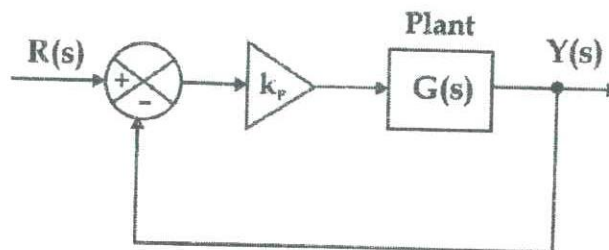

Figure Q3 (b)
- b) You are required to design a proportional controller for the system shown in Figure Q3 (b) using the root locus design method.
- i) Following necessary rules for drawing the root locus, sketch the root locus of the system shown in Figure Q3 (b).
- c) i) Roughly sketch the root locus of the system shown in Figure Q3 (b) when  $k_p$  varies from 0 to  $\infty$ . Here,